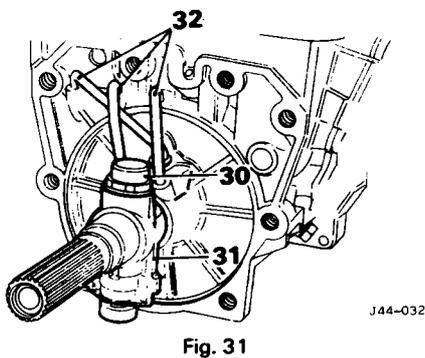

Fig. 31
30. Remove the plug and spring washer securing the governor on the output shaft (Fig. 31).
31. Note the fitted position of the governor; slide the governor off the output shaft (Fig. 31).
32. Carefully lever the governor feed tube, governor return tube and lubrication tube out of the transmission case (Fig. 31).